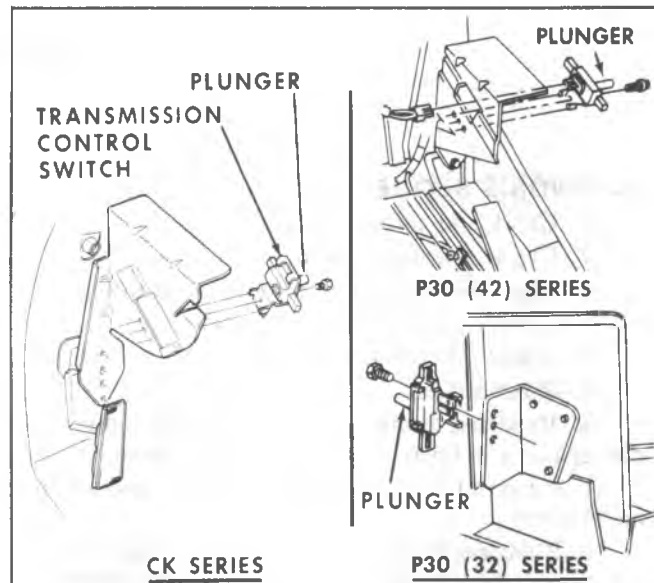

Fig. 7A-34--Detent Downshift Switch
1. Install switch as shown in Fig. 7A-34.